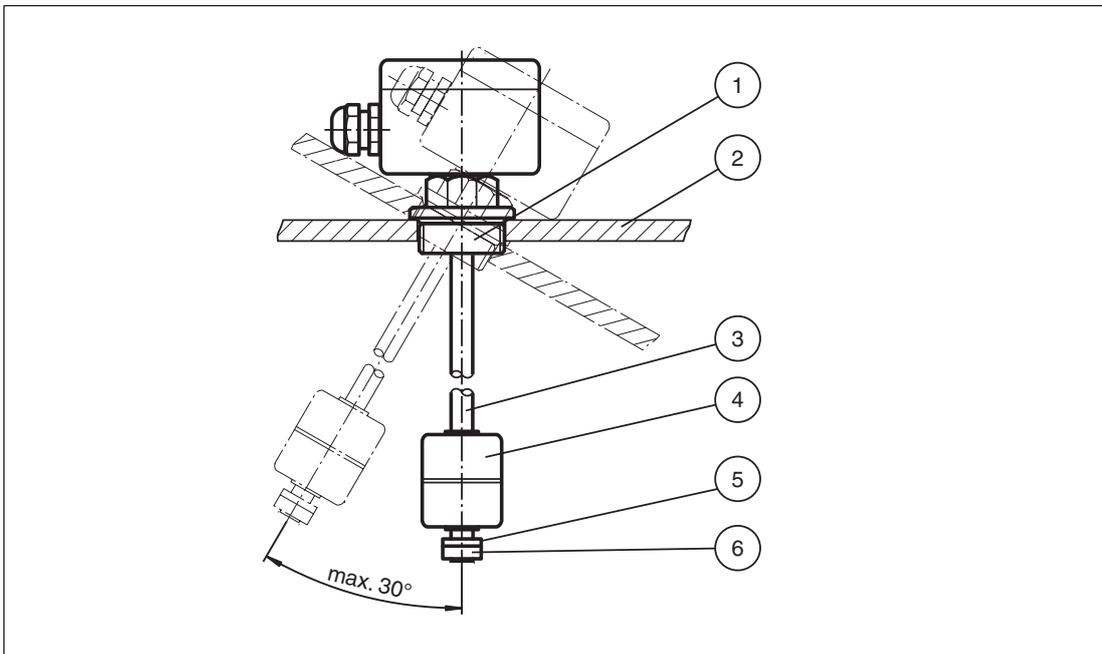

Figure 4.2 Principal device mounting
3. Install the device in the container from the outside. The device is installed in a vertical position. The angle of installation must not deviate from the vertical position by more than 30°, see Figure 4.2
4. Screw in the device using the full length of the thread (1). Use suitable seals.